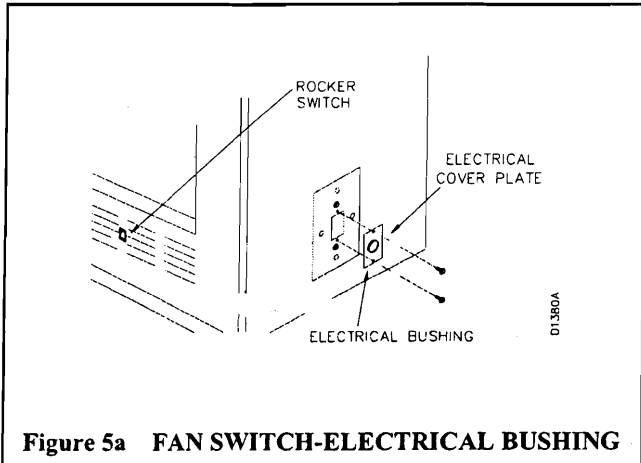

Figure 5a FAN SWITCH-ELECTRICAL BUSHING
Fan or blower kit is optional (for circulating models only) with this fireplace. Use of blowers or fans other than manufactured by DESA voids the warranty. Fan is operated by pressing the rocker switch (see figure 5a) in the lower right hand corner of the fireplace face. Blower is operated by turning the control knob (not shown).
Fan/blower kit electrical connections are made through the electrical cover plate on the side of the fireplace as shown in figure 5a.
- i. Remove electrical cover plate (with electrical bushing) from the fireplace by removing the two sheet metal screws as shown in figure 5a.